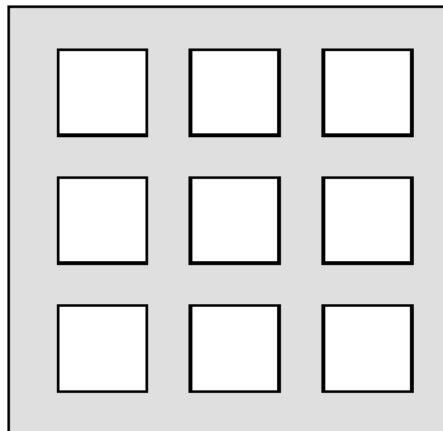

Figure 26. Solder Paste Application on Exposed Pad
3. For the PCB thermal pad, solder paste should be printed on the PCB by designing a stencil with an array of smaller openings that sum to 50% of the QFN exposed pad area. Solder paste should be applied through an array of squares (or circles) as shown in Figure 26.